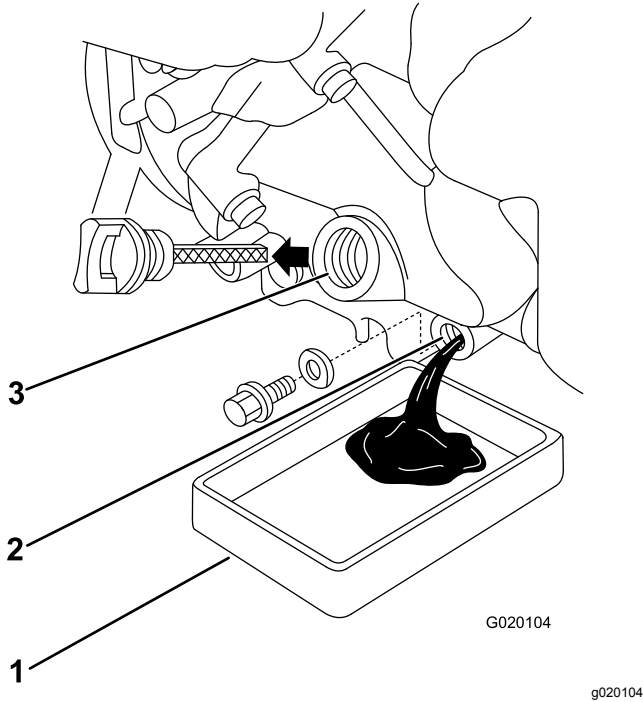

Figure 19
- Remove the drain plug and drain the oil from the engine (Figure 19).
- Remove the dipstick and slowly pour approximately 80 percent of the specified amount of oil into the engine (Figure 19).